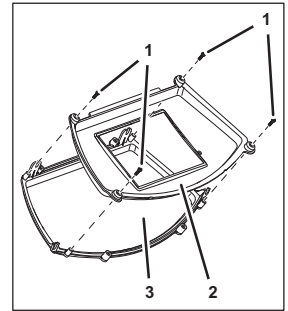

Fig. 42
14. Remove the fastening bolts (Fig. 42/1) of the adapter piece (Fig. 42/2).
15. Remove the adapter piece (Fig. 42/2) from the front promotional pane (Fig. 42/3), if applicable.
16. Position the new adapter piece (Fig. 42/2) within the front promotional pane (Fig. 42/3).
17. Attach the adapter piece (Fig. 42/2) using the fastening bolts (Fig. 42/1).